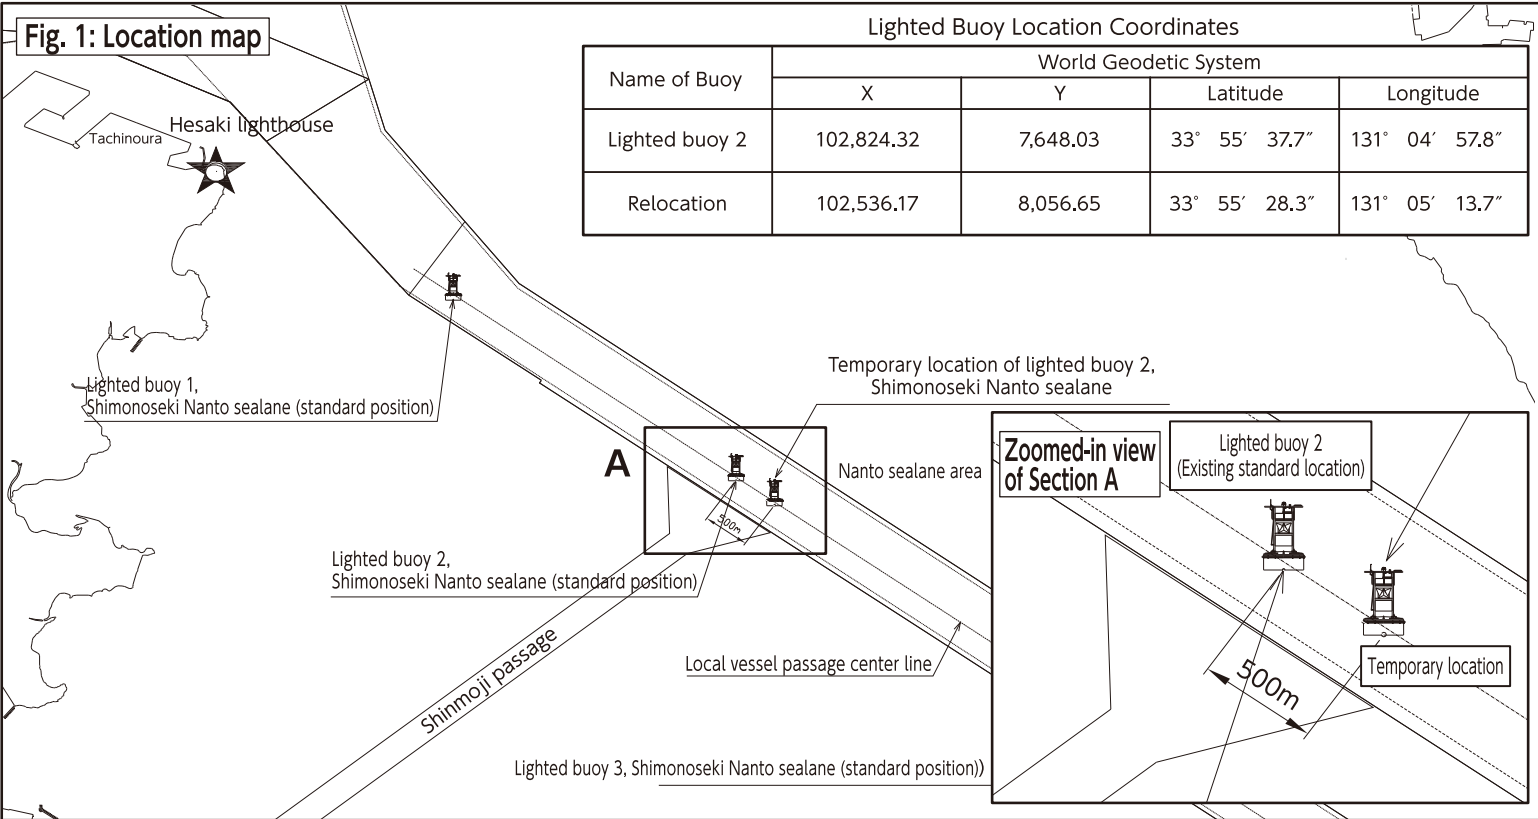

Figure 2: Process for relocating and restoring lighted buoy
- 1) The lighted buoy sinker will be slung by professional divers, pulled up by crane-equipped vessels, and temporarily stored onboard. (Refer to Fig. 2)
- 2) The lighted buoy will be temporarily placed or suspended on crane-equipped vessels and transported to the relocation site where they will be set up. (Refer to Fig. 2)